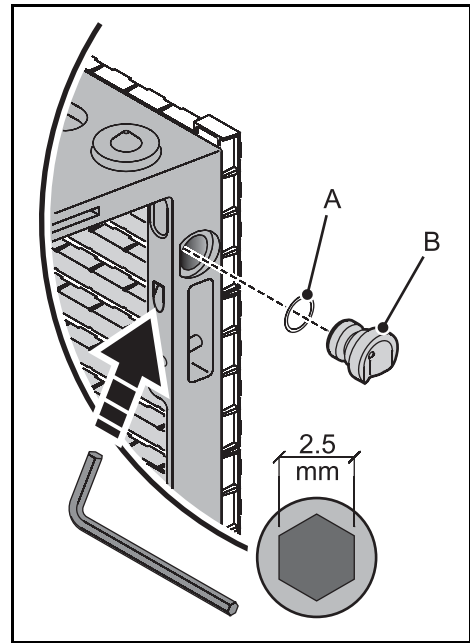

Figure 15: Removing side-to-side alignment cones
1. See Figure 15. Unscrew the 2.5 mm Allen bolts shown and remove the straight side-to-side alignment cones **B** and washers **A** close to the top and to the bottom of one side of each panel. Store all components for possible re-use.
When tearing down an installation, remove single panels starting at the bottom of the column and working upwards. Reinstall all rubber connector caps and any straight side-to-side alignment cones you removed in a curved installation (see Figure 15).